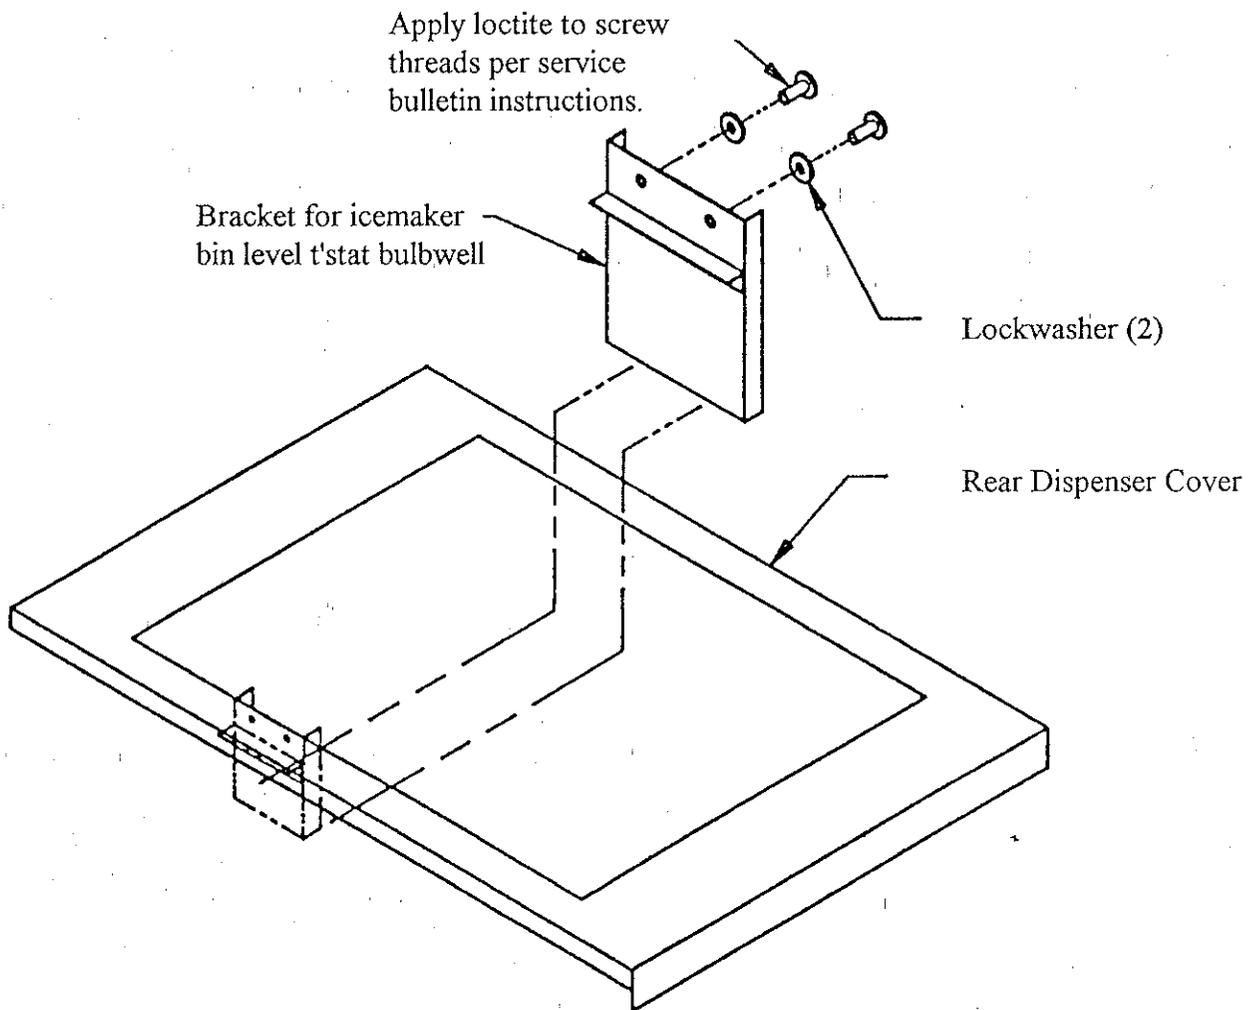

Fig. 2
1. Install the mounting bracket for the bin level thermostat bulbwell. (See Fig. 2)